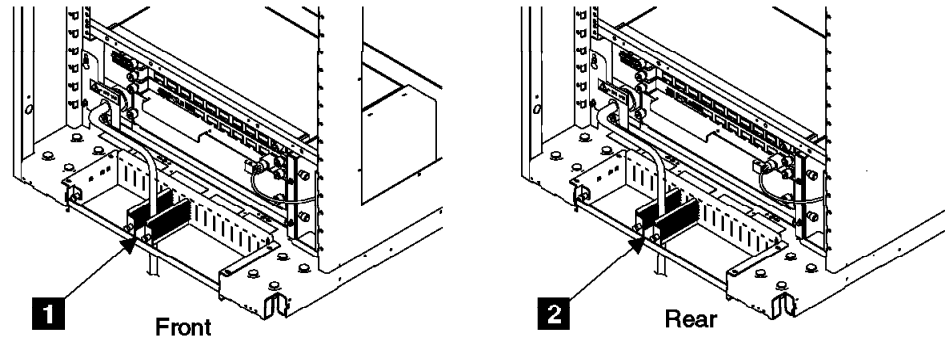

Figure 117. 2105 Model 100 Front and Rear Tailgates (t0073771)
1. Do this procedure to remove the EMC hardware from the front, rear, or front and rear tailgates. For tailgate locations, see Figure 117 on page 133.